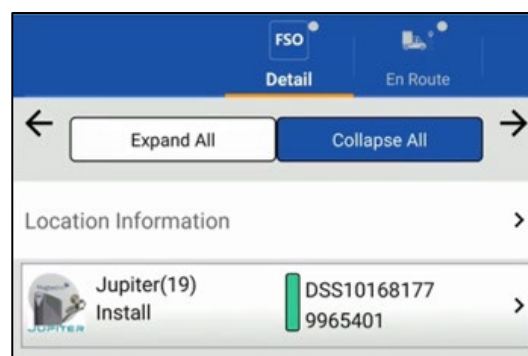

Figure 25: FSO Detail step
25). If the customer is eligible to receive refurbished equipment, the  icon will appear as shown on the right in Figure 25. If this icon is present, use refurbished equipment if it's available.
The FSO Detail step (Figure 25) contains all the pertinent information about your currently selected job.